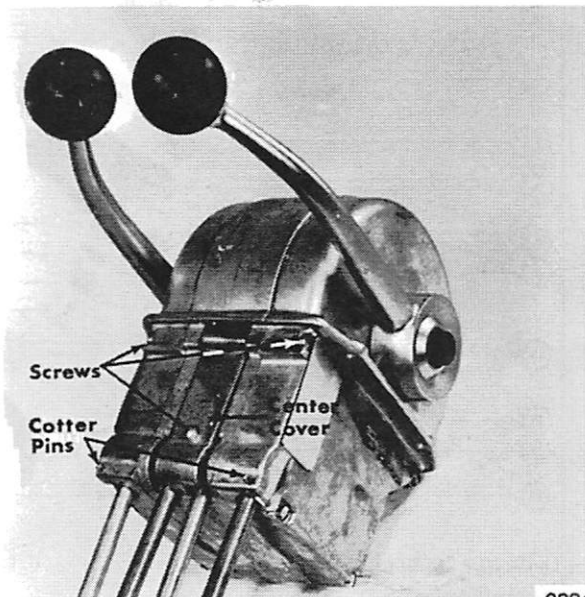

Figure 3. Cover Installed
6. Reinstall cotter pins, covers and screw. (Figure 3)